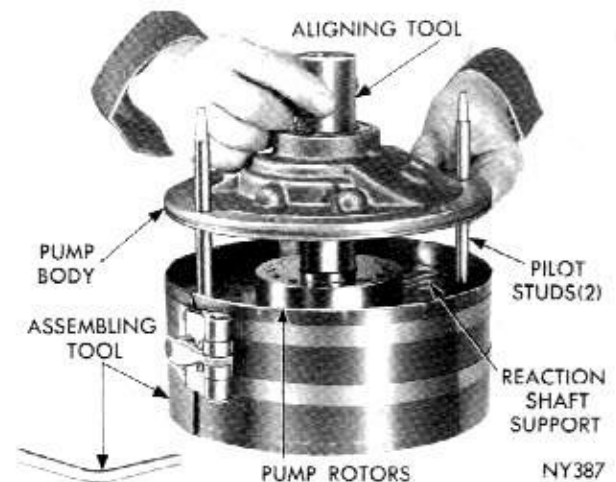

Fig. 49—Assembling Pump and Reaction Shaft Support (A-904)
(1) Place reaction shaft support in assembling Tool C-3759, with hub of support and tool resting on a smooth flat surface bench (Fig. 49). Screw two pilot studs, Tool C-3283 into threaded holes of reaction shaft support flange.
(2) Assemble and place rotors in center of the support (Fig. 49).
(3) Lower pump body over the pilot studs, insert Tool C-3756 through pump body and engage pump inner rotor. Rotate the rotors with tool to enter rotors in pump body, then with pump body firm against reaction shaft support, tighten clamping tool securely.
(4) Invert pump and reaction shaft support assembly with clamping tool intact. Install support to pump body bolts and tighten to 160 inch-pounds. Remove clamping tool, pilot studs and rotor alignment tool.